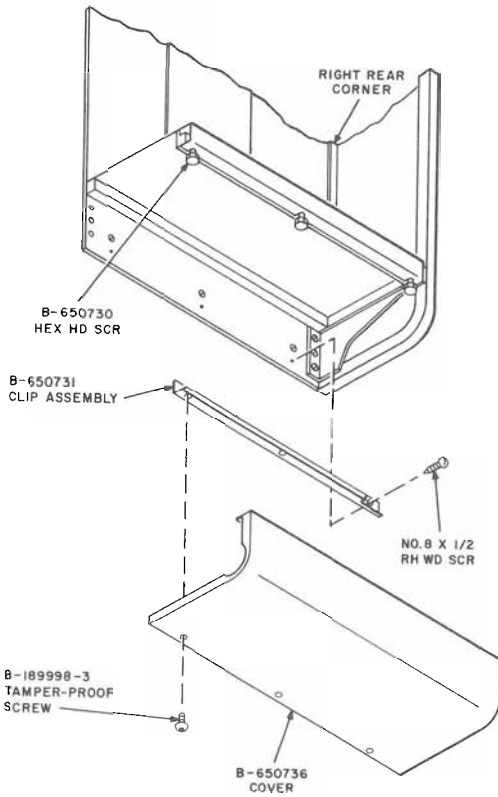

**Fig. 8—Installation of KS-19267, List 11 Directory Rack**
**3.18** Install KS-19267, List 11 directory rack per Fig. 8.